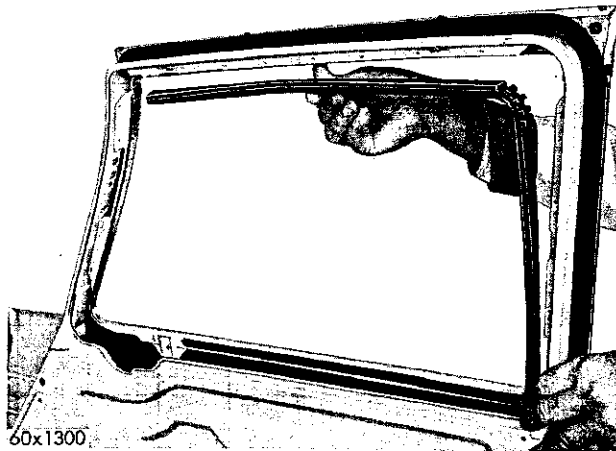

Fig. 79—Removing the Glass Run Channel (Chrysler)
(1) Remove the inside handles, arm rests (if so equipped), trim panel and shower curtain.
(2) Run the window to the down position and pry the forward end of the run channel down and out of the door frame (Fig. 79).
(3) Disengage the lower end of the run channel and work it up and out of the door.
(4) Disengage the regulator arms from the glass lower channel.
(5) Raise the glass up and out of the door frame.